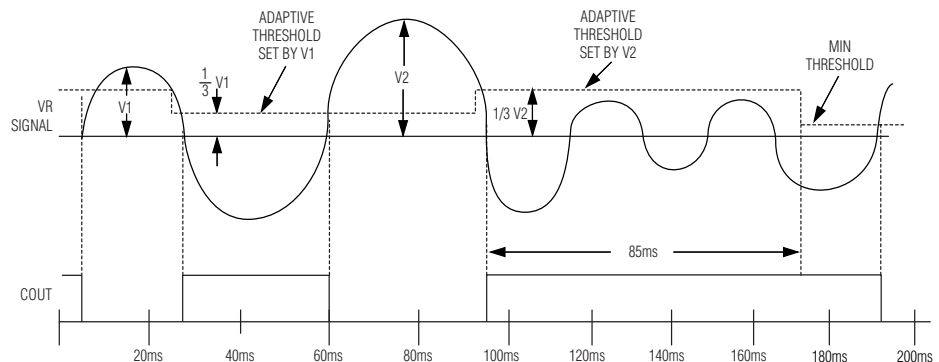

Figure 2-7 Adaptive Peak Threshold (APT) from the MAX9926 Specification
- **VR608_APT_ONCHIP**: automatically adjusts the threshold to 1/3 of the peak of the previous analog input cycle, using the built-in APT detector of the Dual VR IC (see **Figure 2-7**). Note that if the input voltage remains lower than the adaptive threshold for 85 ms, the threshold will be dropped to the chip's minimum value, driving the comparator output low; this ensures pulse recognition in the presence of an intermittent sensor connection.